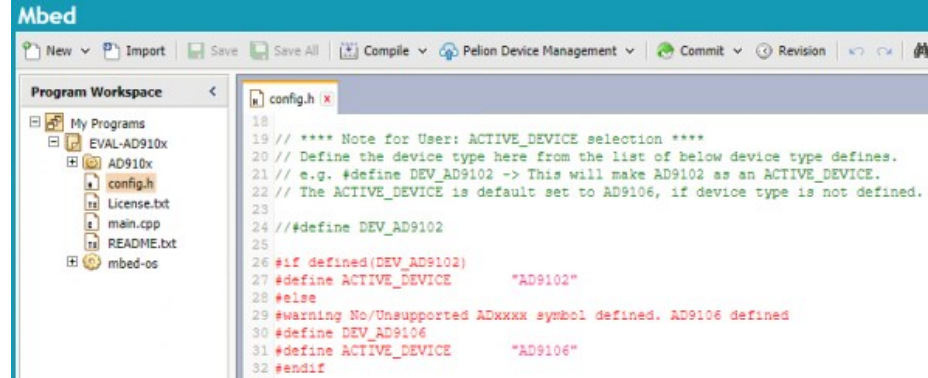

Figure 5. Active device selection in config.h
5. Open config.h in the Mbed compiler and define the active device. If evaluation board is AD9102-ARDZ-EBZ, uncomment line 24 by deleting the two forward slashes. Refer to Figure 5. Otherwise, proceed to compiling the code by clicking the “Compile” button.